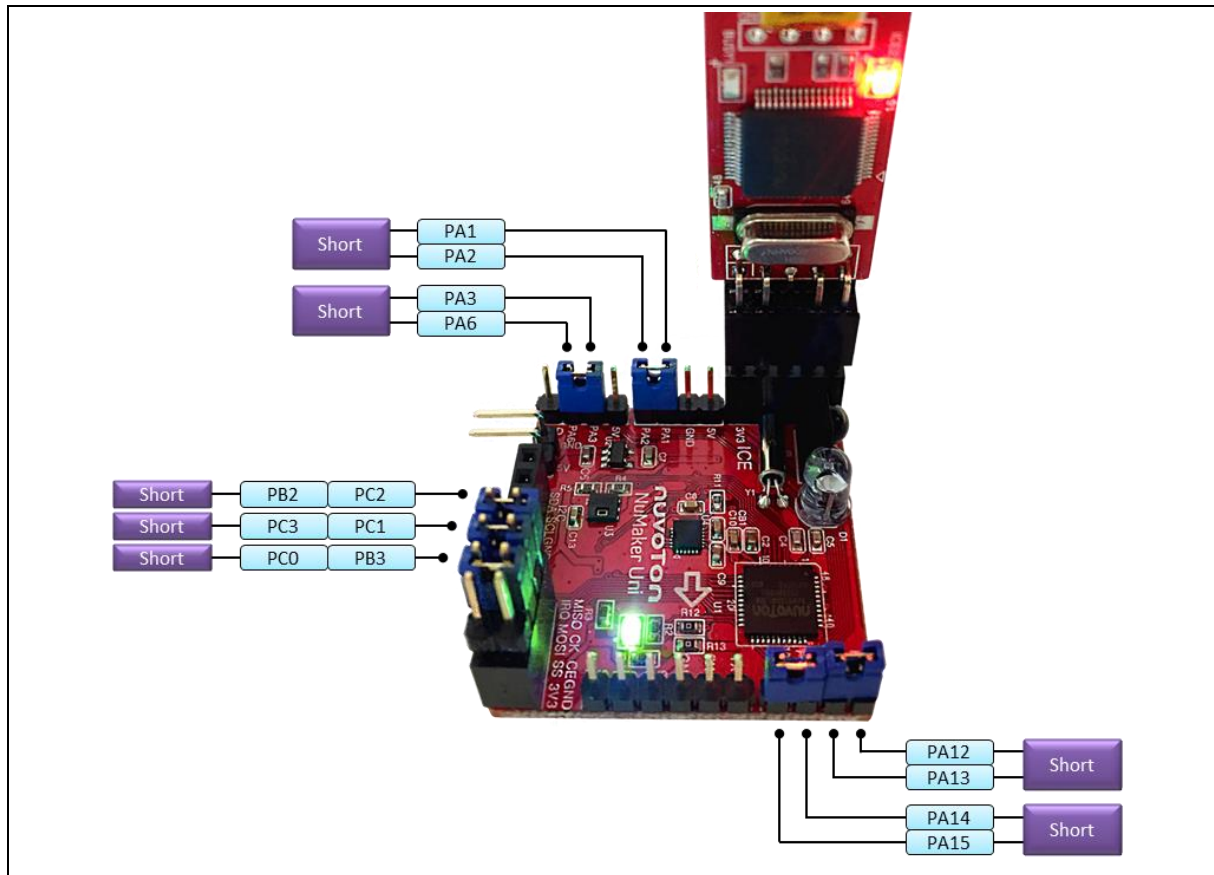

Figure 6-1 NuMaker Uni Hardware Setup
1. To execute this sample project, some extension pins need to be short on NuMaker Uni. The hardware setting as shown in Figure 6-1.